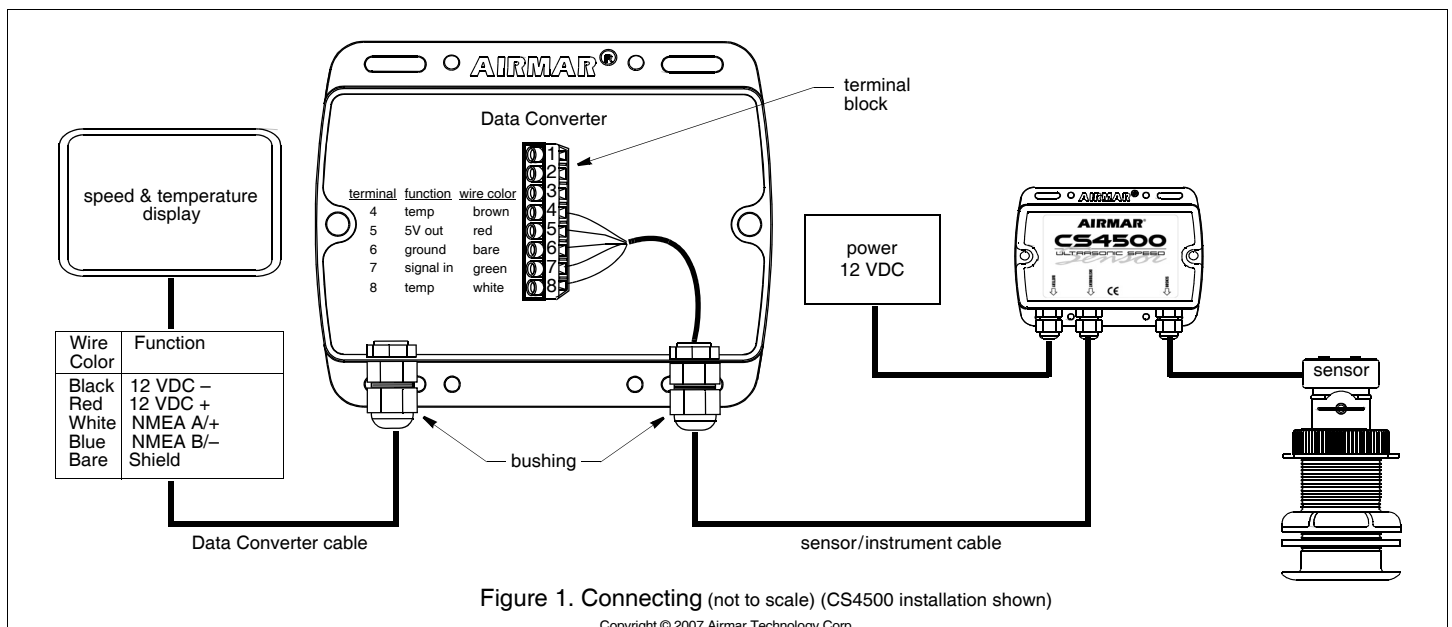
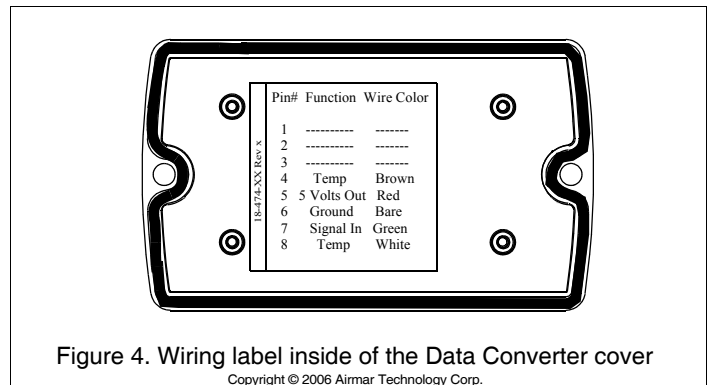

Figure 1. Connecting (not to scale) (CS4500 installation shown)
Figure 4. Wiring label inside of the Data Converter cover
1. Select a convenient dry mounting location for the water-resistant Data Converter. Locate it a minimum of 1 m (3') away from the display (Figure 1). Position the converter so the bushings are easily accessible. If the Data Converter will be mounted on a vertical surface, face the bushings downward to avoid water seeping into the box.
4. Push approximately 200mm (8") of the sensor/instrument cable through the bushing of the Data Converter (Figure 1). To ease sliding, apply alcohol to the cable jacket.
2. Connect each colored wire in turn to its corresponding terminal on the terminal block. Insert the stripped end of the wire into the hole in the terminal and tighten the screw using a small blade screwdriver (Figure 1). *Be sure the stripped end of the wire is inserted up to its insulation only.* Do not include any insulation inside the terminal. Gently tug on the wire to ensure that it is securely fastened. Repeat this process until all the wires are connected. Follow the color code listed on the inside of the Data Converter cover (Figure 4).
4. Hand tighten the nut on the bushing to make a water-resistant seal (Figure 1).
2. Connect the Data Converter cable to the display. Refer to the instructions that came with the display for connecting an NMEA 0183 speed & temperature sensor. Follow the color code below (Figure 1).